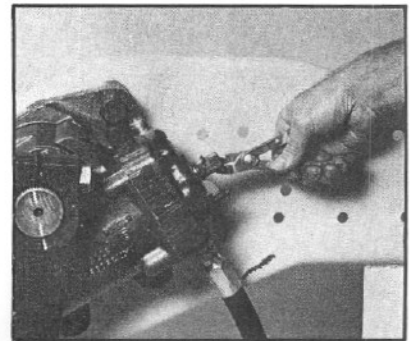

Figure 21
- 2.4 Remove the retaining ring (5) from the input shaft (FIG. 21).